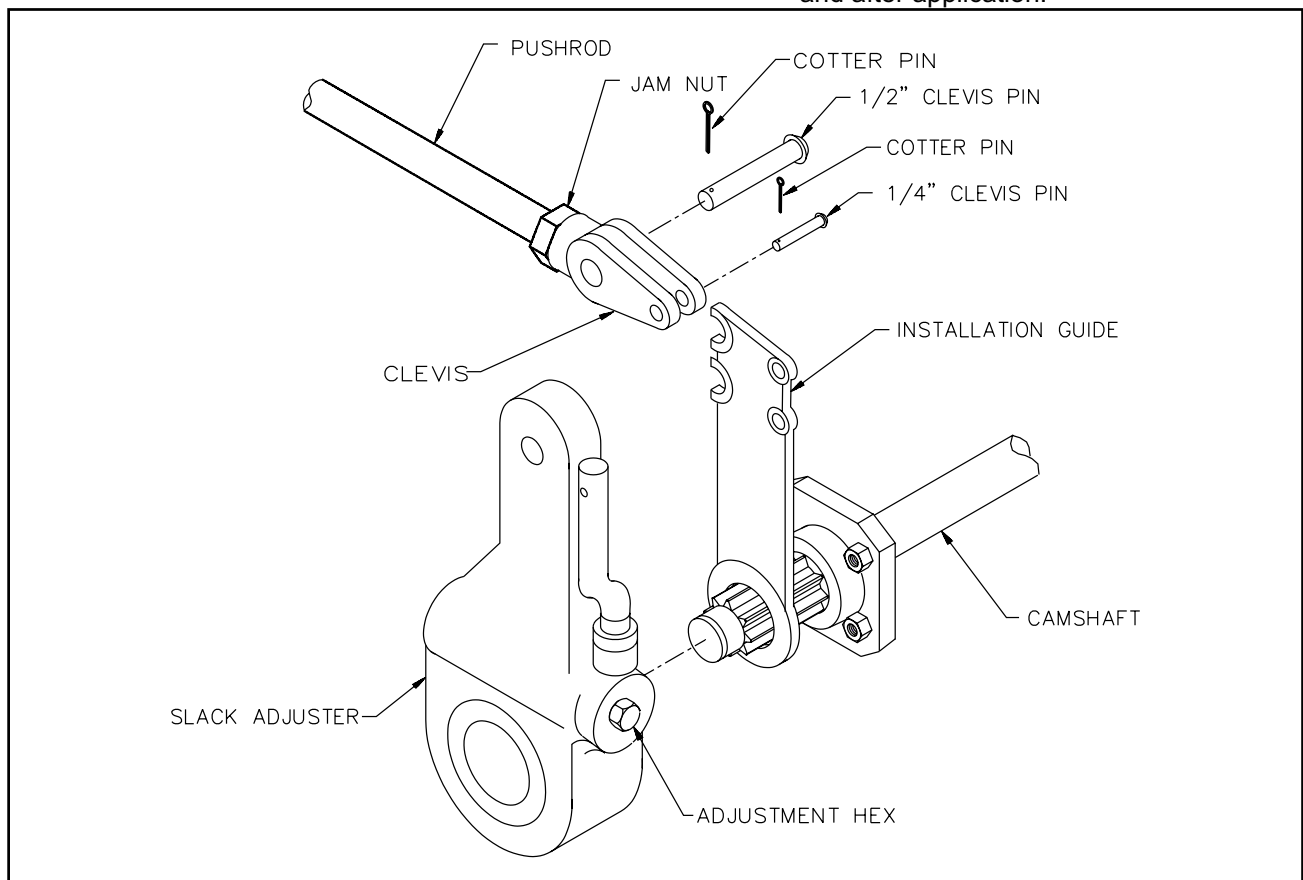

Figure 4-11 Slack Adjuster
4. Disconnect the slack adjuster from the connecting rod by removing the clevis pin (See Figure 4-11).
3. Remount the brake unit on the axle brackets and reconnect the air service hoses and the slack adjuster connecting rod (**See Figure 4-11**).
a. Operational Check (See Figure 4-11)
- b. Replacing Slack Adjuster (See Figure 4-11)